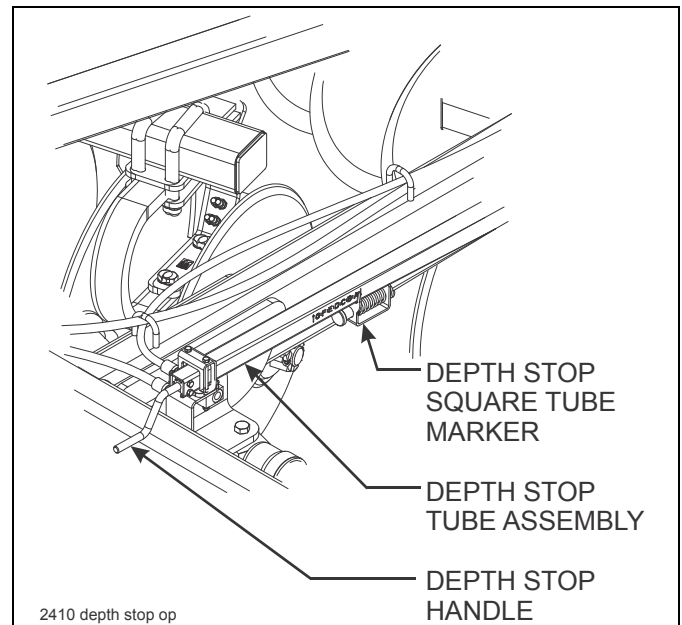

Figure 4-7: Depth Stop Adjustment (Manual)
1. Adjust the depth stop by turning the handle in (clockwise) to increase operating depth (**See Figure 4-7.**) Turn the handle out (counter-clockwise) to decrease operating depth.